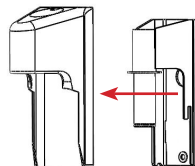

FIGURE 2.3 - Outer Cover
STEP 2: Remove the outer plastic cover from the base plate. Refer to FIGURE 2.3